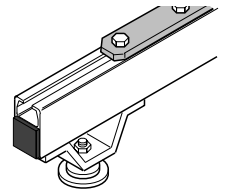

**Figure 7.**
- Stand assembly upright and attach other side frame (Fig 7). Square unit and securely tighten all bolts.